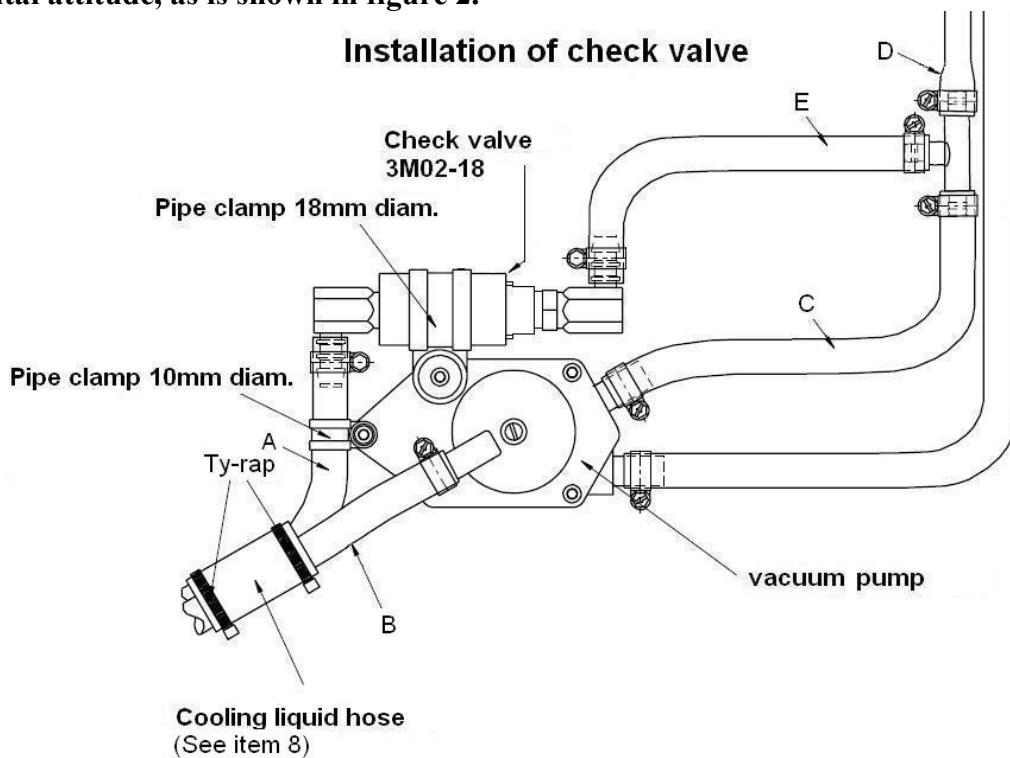

Figure 2
6. Remove bolt no. 5 (won't be needed any more) and attach the check valve (3M02-18) with a pipe clamp  $\varnothing 18\text{mm}$  and an Allen key bolt M5x35 to the vacuum fuel pump, see figure 2. Use a 5,3 DIN9021 washer under the bolt head and a 5,3 DIN125 washer and a self locking nut M5 DIN985.8 to fix the bolt.
**Caution:** With the power plant fully extended, the check valve must be positioned in a horizontal attitude, as is shown in figure 2.
7. Assemble new fuel hoses A, B, C, D and E with metal braiding, as well as the replacement T-connector 4M02-15, issue “d”, see Figures 2 and 4.